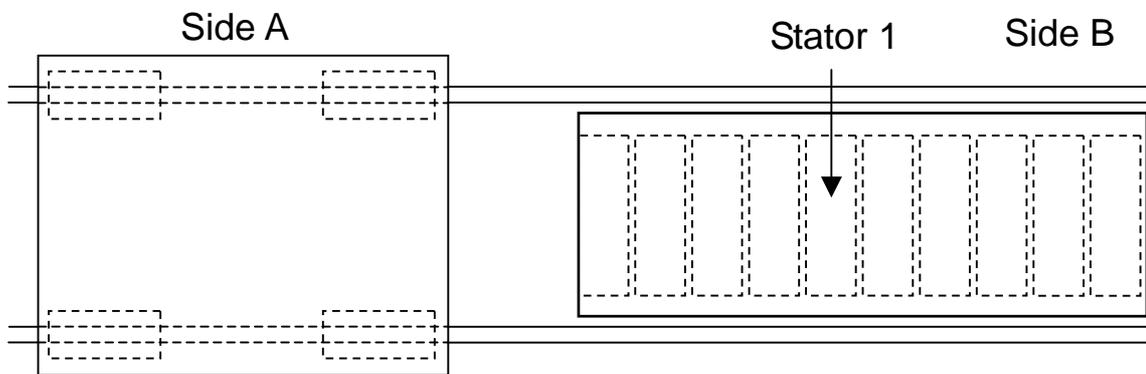

Figure 2. Installation of stator 1 on side B
- (3) Before you install stator 1 on side B, shift the forcer and its housing to side A (figure 2) **to avoid the danger of clamping hands.**
- (4) As in (3), shift the forcer and its housing to side B before you install stator 2 on side A.
- (5) Install the linear scale according to your own design.
- (6) Run the cables properly so they will not interfere with other objects in motion. (It is recommended to use a cable chain to organize all the cables.) Also, provide the cables with sufficient radius of gyration.
- (7) Anti-dust bellow or cover shall be required especially when there are dusts or chips of ferrous metals.